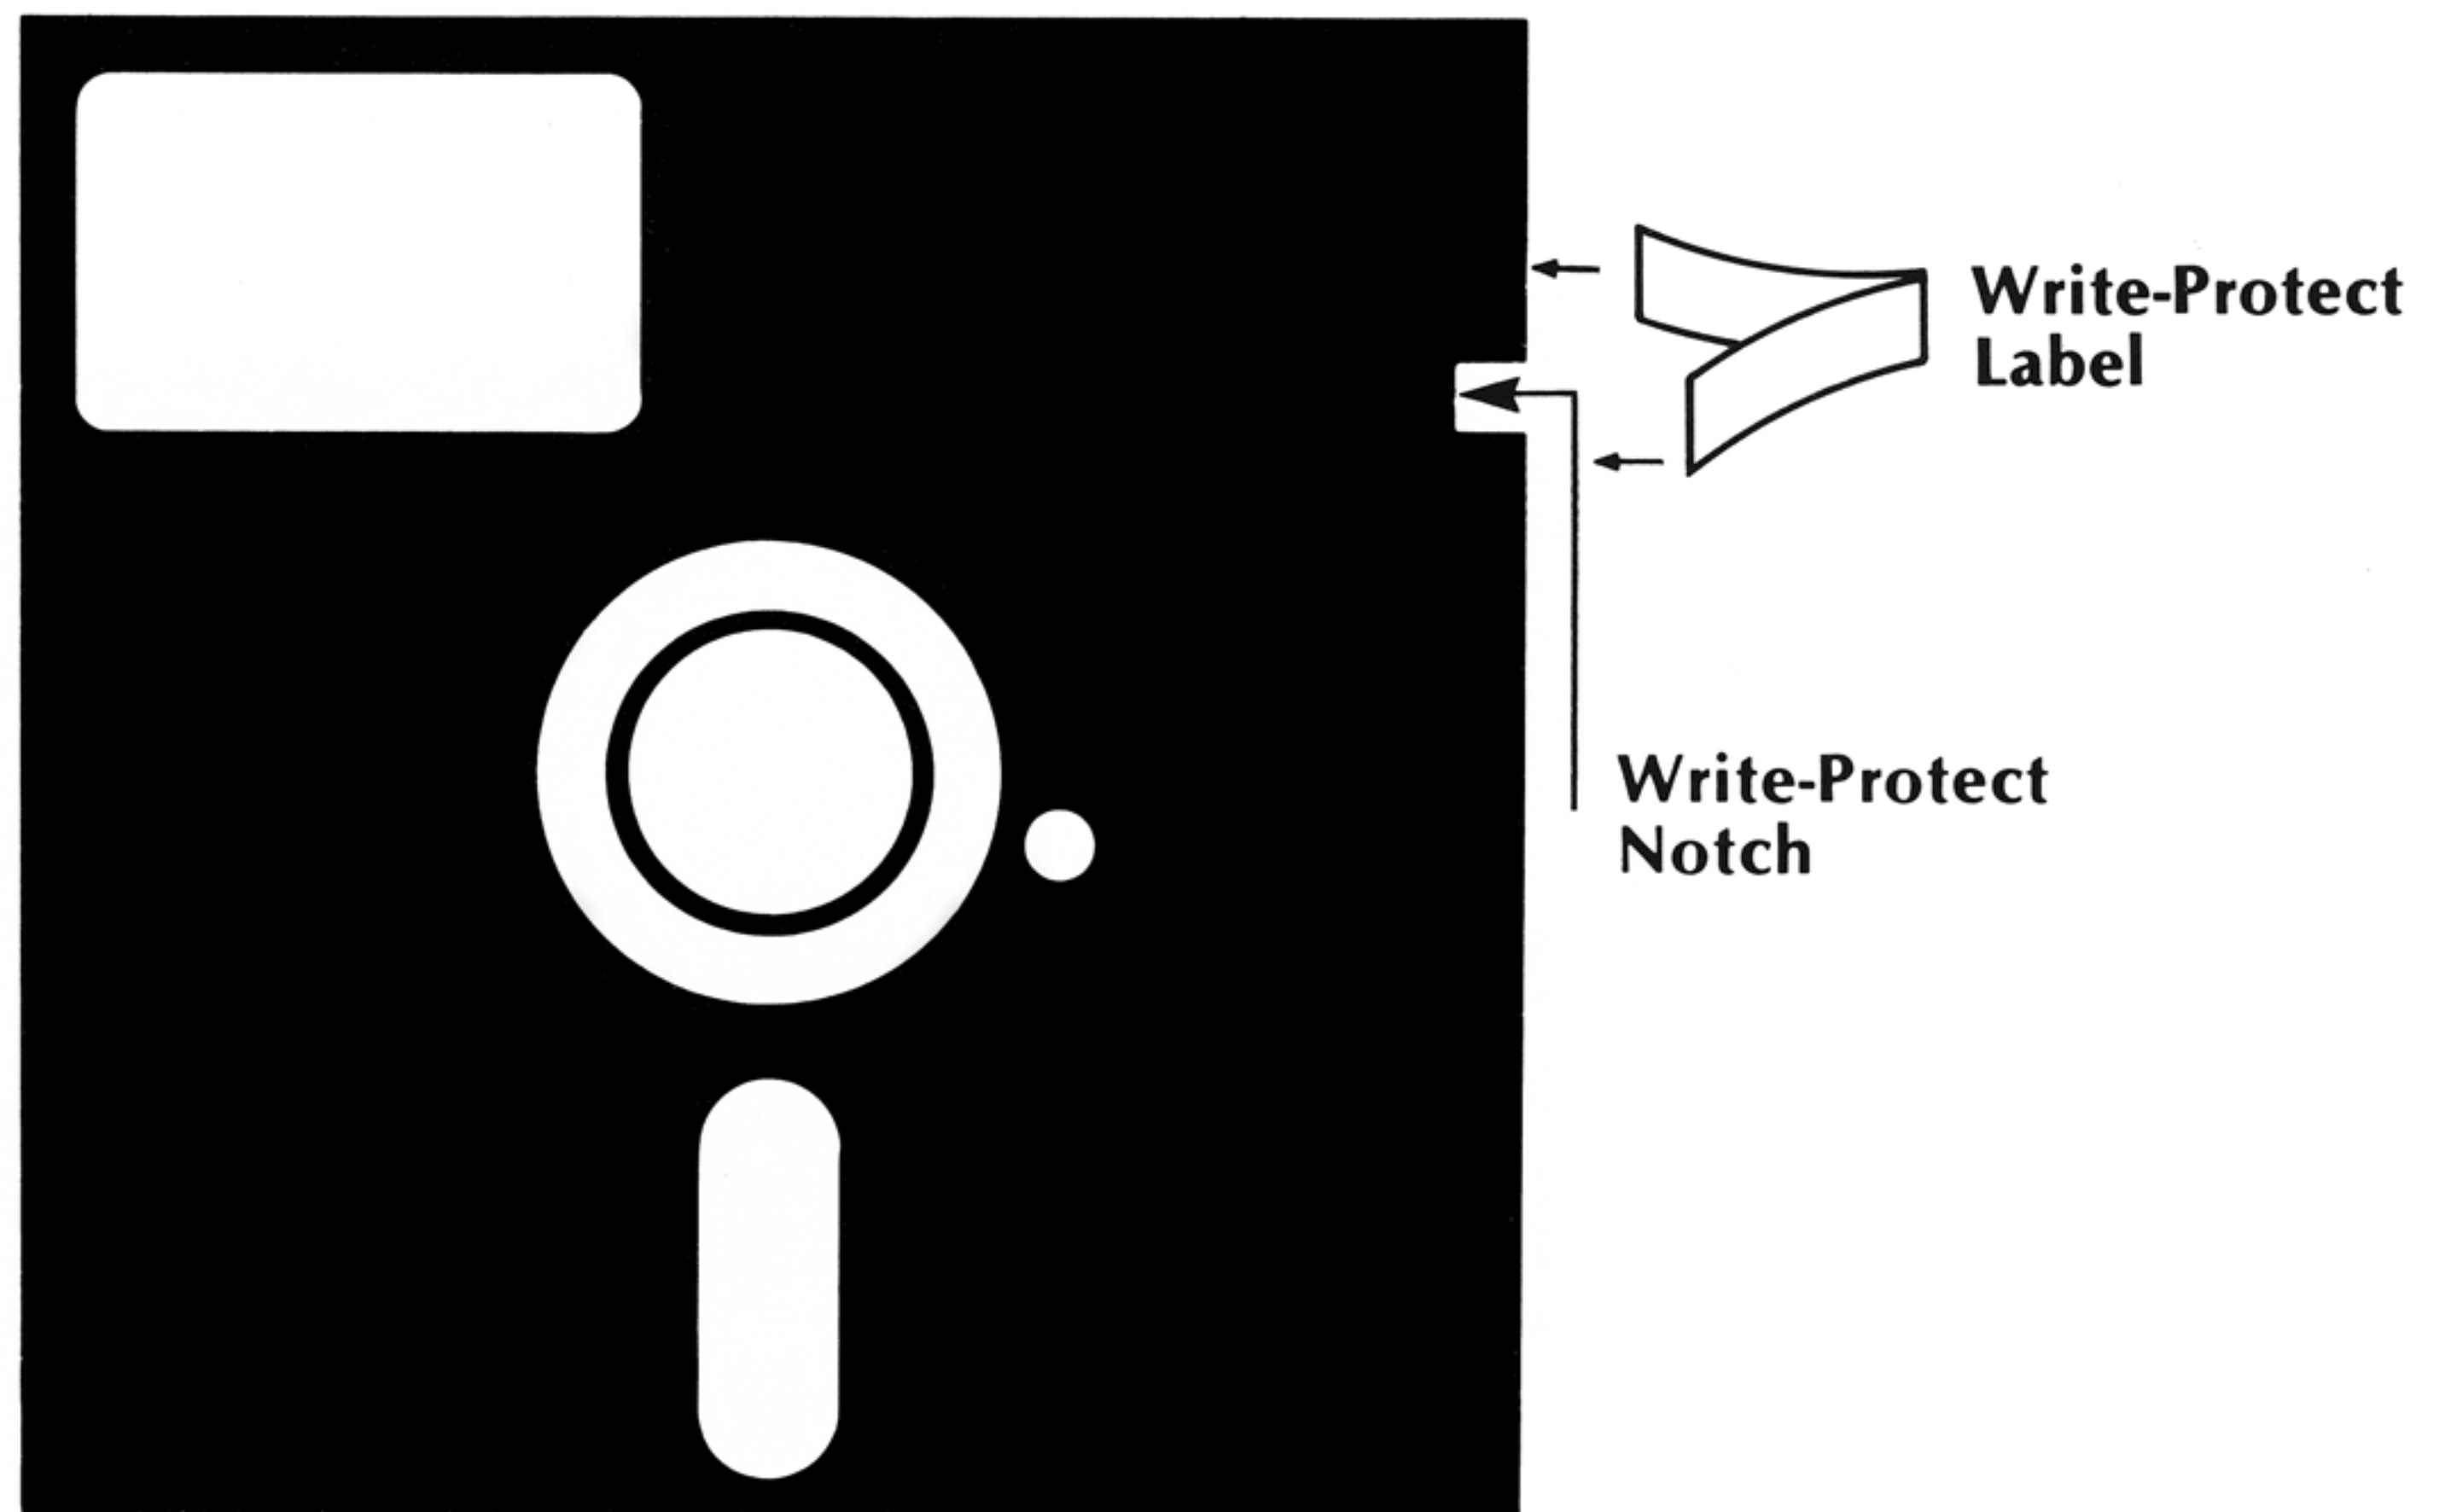

Figure 7. Write-Protecting a Diskette
- Write-protect at least one duplicate Master Diskette by adding a write-protect tab as demonstrated in Figure 7 so that you will always have one backup copy of your Master Diskette.
- Cover the write-protect notch on the diskette with a rectangular aluminum label to prevent all write operations to the diskette (see Figure 7.) This label must be removed to write to diskette. (Some diskettes don't have this notch, and thus are already write-protected).